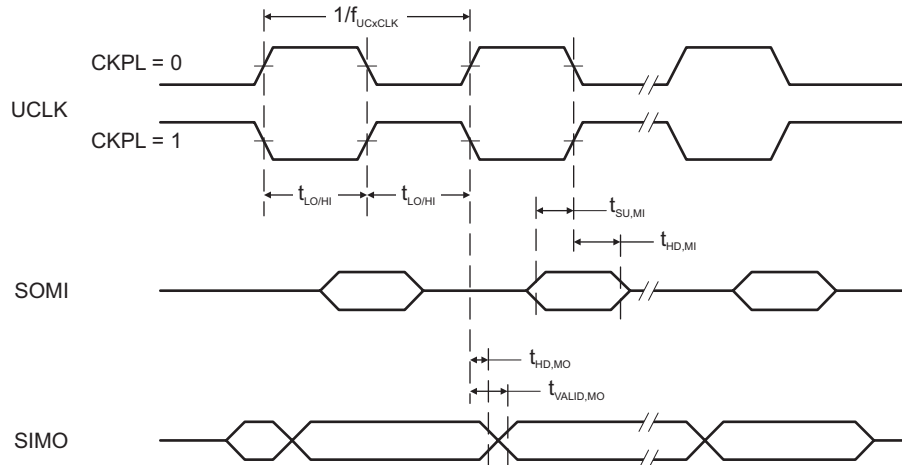
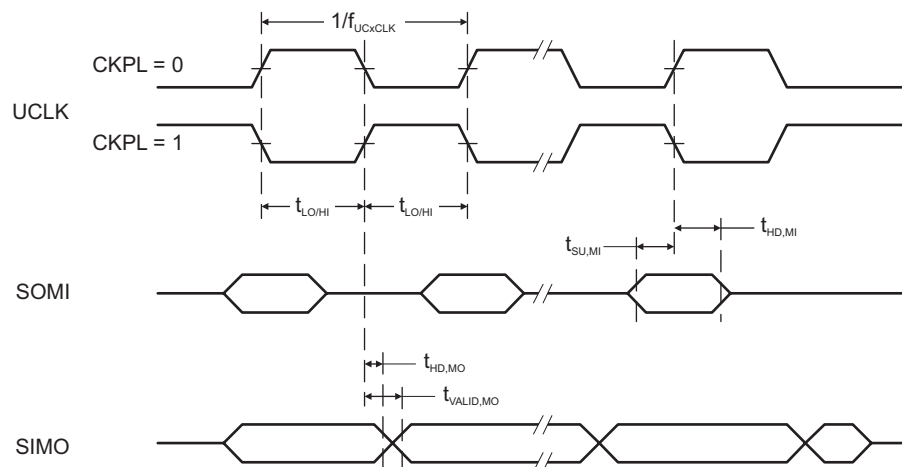

Figure 5-13. SPI Master Mode, CKPH = 0
Figure 5-14. SPI Master Mode, CKPH = 1
(see Note ⁽¹⁾, Figure 5-13 and Figure 5-14)
- (1) f_{UCxCLK} = 1/2t_{LO/HI} with t_{LO/HI} ≥ max(t_{VALID,MO}(USCI) + t_{SU,SI}(Slave), t_{SU,MI}(USCI) + t_{VALID,SO}(Slave)). For the slave parameters t_{SU,SI}(Slave) and t_{VALID,SO}(Slave) see the SPI parameters of the attached slave.
- (2) Specifies the time to drive the next valid data to the SIMO output after the output changing UCLK clock edge. See the timing diagrams in Figure 5-13 and Figure 5-14.
- (3) Specifies how long data on the SIMO output is valid after the output changing UCLK clock edge. Negative values indicate that the data on the SIMO output can become invalid before the output changing clock edge observed on UCLK. See the timing diagrams in Figure 5-13 and Figure 5-14.
- Specifies the time to drive the next valid data to the SOMI output after the output changing UCLK clock edge. See the timing diagrams in Figure 5-13 and Figure 5-14.
- Specifies how long data on the SOMI output is valid after the output changing UCLK clock edge. See the timing diagrams in Figure 5-13 and Figure 5-14.